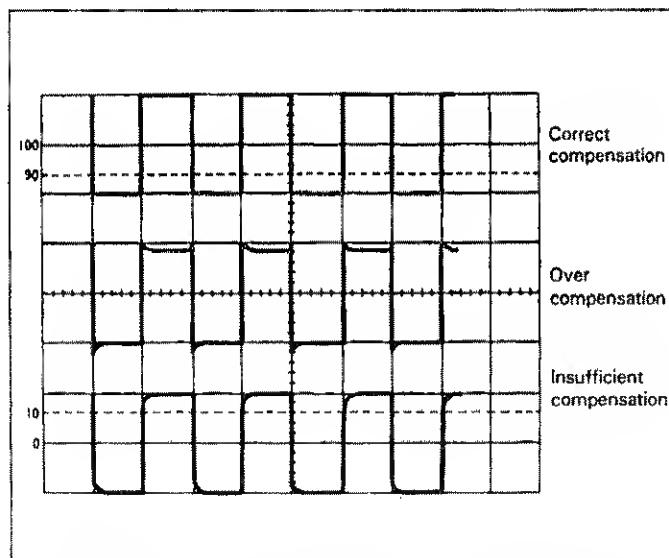

Fig. 23. Probe Compensation Adjustment.
4. Adjust compensation trimmer on probe for optimum square wave (minimum overshoot, rounding off, and tilt). Refer to Fig. 23.